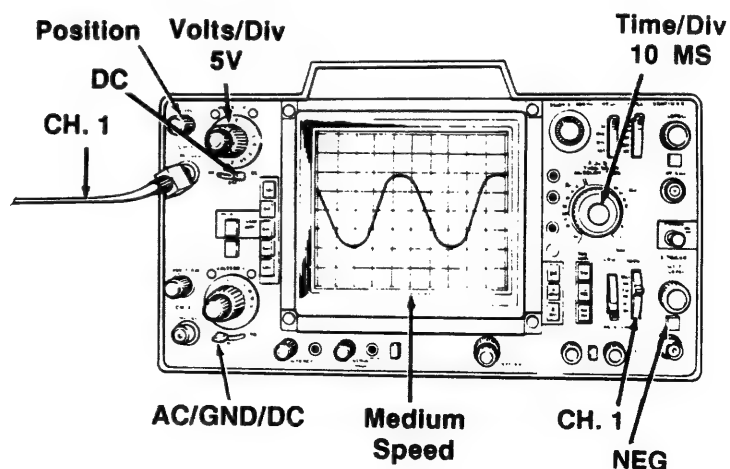

Figure 2-5.3A
1. Set the Oscilloscope controls as shown in Figure 2-5.3A.